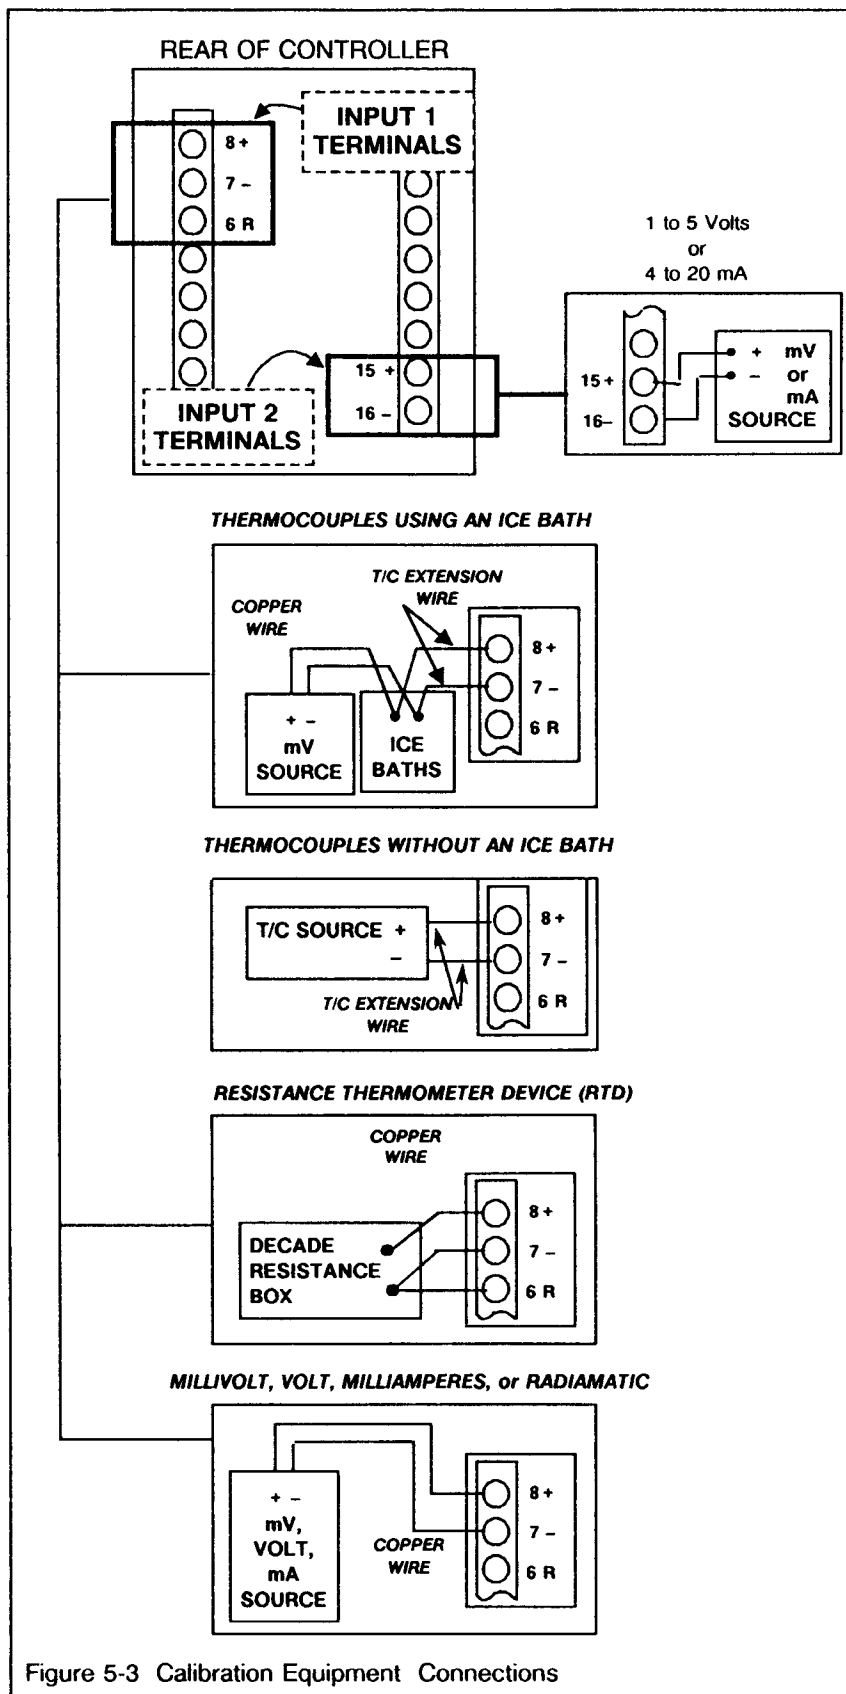

Figure 5-3 Calibration Equipment Connections
Set-Up (SEE FIGURE 5-3)**THERMOCOUPLE INPUTS (Ice Bath)**
- Connect the copper leads from the calibrator to the input 1 terminals as shown in Figure 5-3.